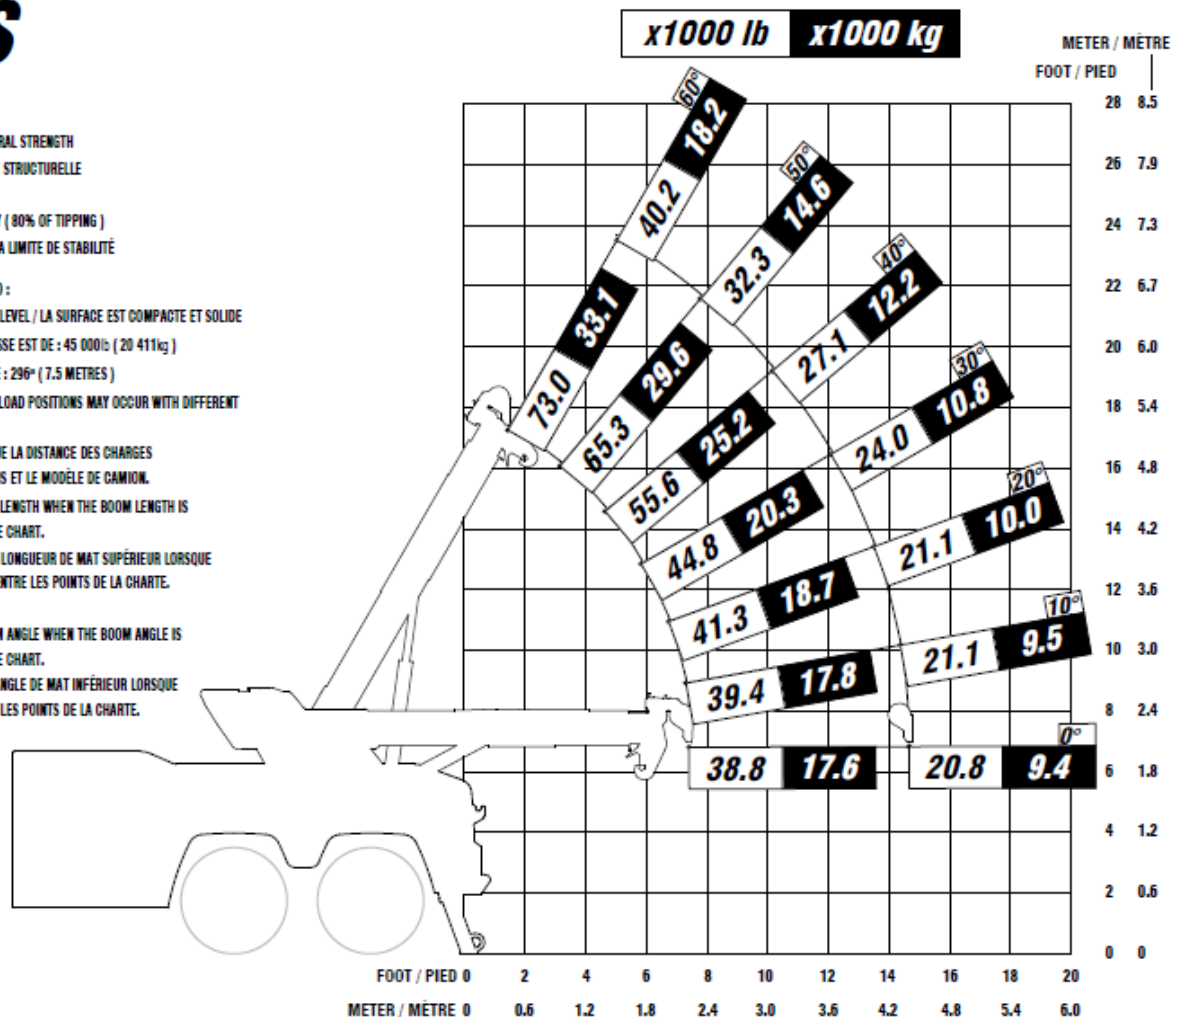

FIGURE 13 — LIFTING CAPACITY OF THE 30CS
- Figure 13 — Lifting Capacity of the 30CS